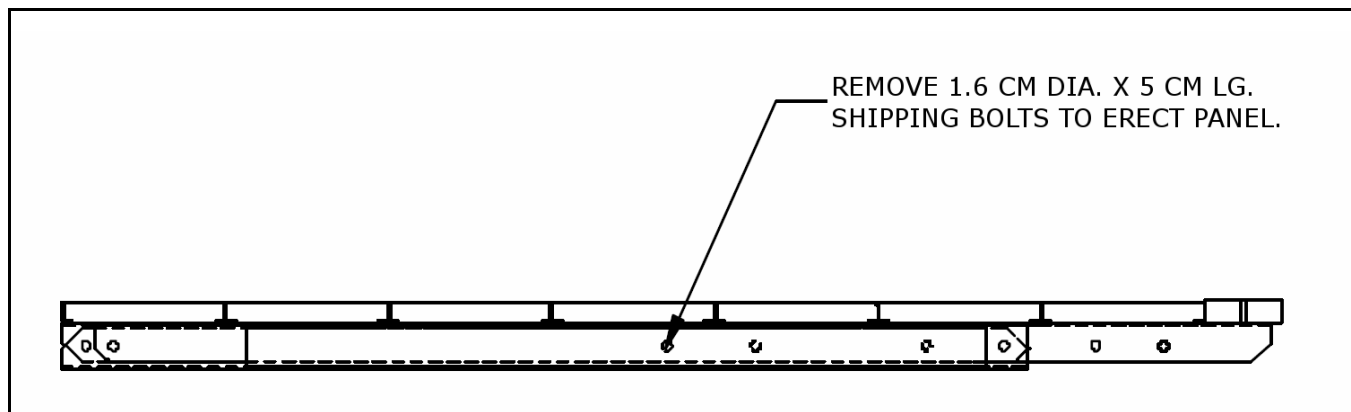

Figure 3.2 Folded Containment Panel
1. To erect the wall panel, remove the 1.6 cm x 5 cm large shipping bolts connecting the center holes in the wall support angles, lower base angles, and upper support brace angles. See Figure 3.2.